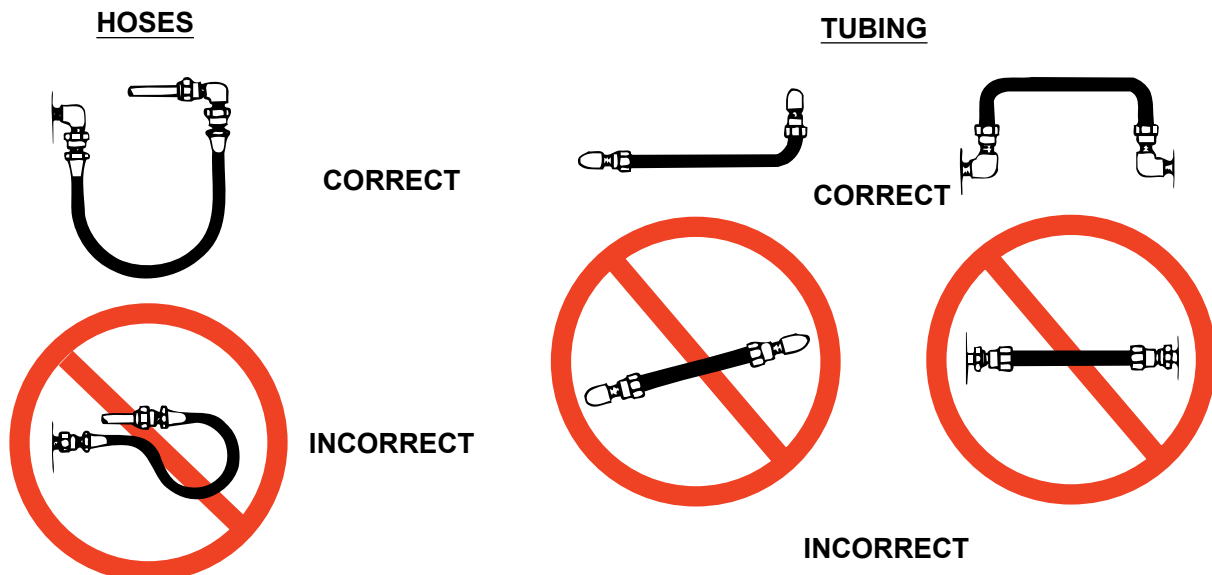

Fig. 2. Hoses and Tubing Connections
- Avoid straight line tubing connections in short runs. Straight line runs do not provide for expansion and contraction due to pressure and/or temperature changes. See fig. 2. "Hose and Tubing Connections" under section "Hydraulic Connections" of this form.